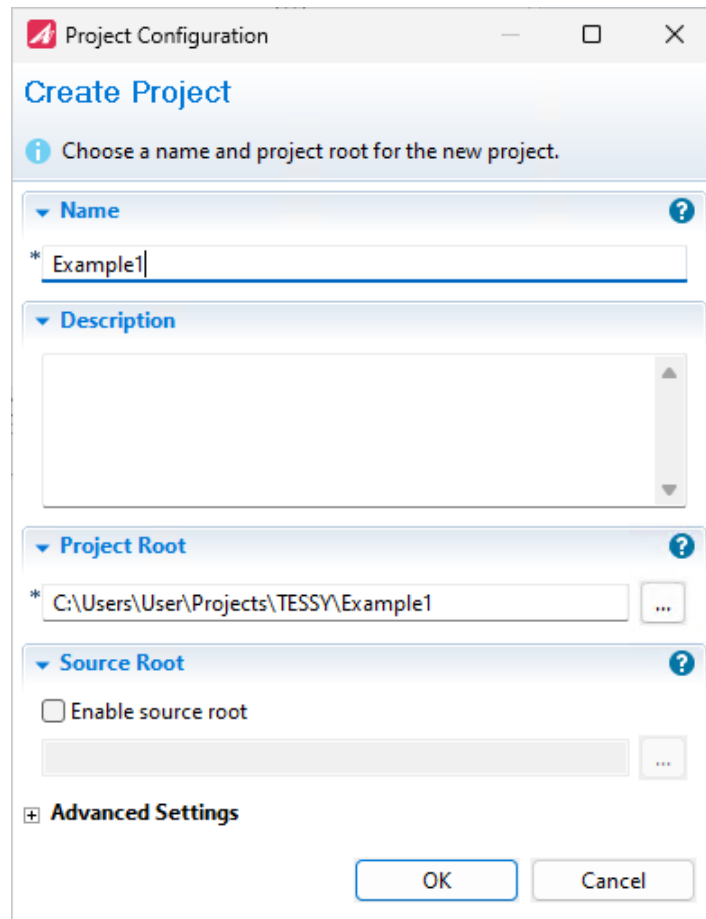

Figure 5.2: Creating the new project “Example1”
- The Project Configuration dialog opens (see figure 5.2).